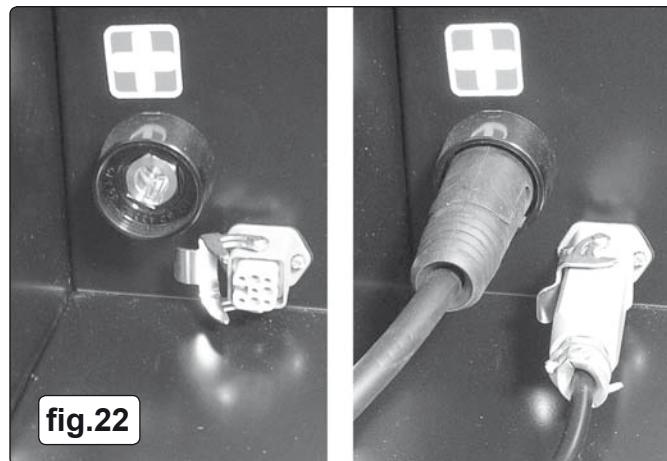

fig.22
5.7.6 **Models 3500 & 4500** have a portable feed unit inside the welder. Ensure that this is connected to the main unit before proceeding. Connect the positive power supply lead and the control lead from the feeder to the sockets in the internal compartment as shown in fig.22.
- 7.1.2 Unplug the circular dinse connector and the adjacent square connector to be found in the left hand side of the compartment.(fig.22)